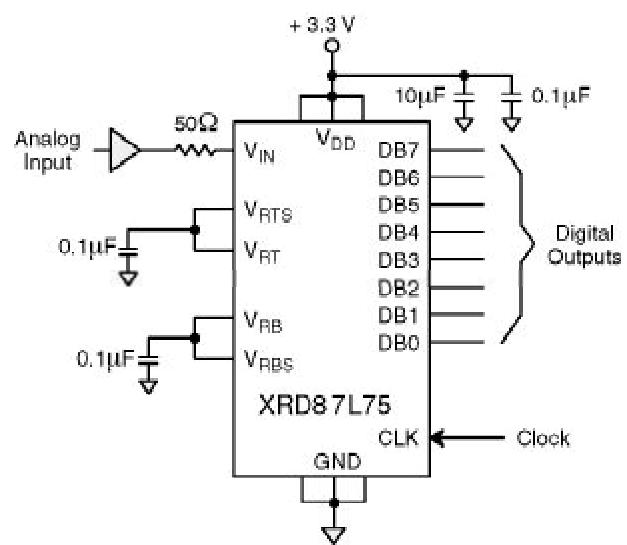

Figure 5. Typical Circuit Connections
5. See V_{IN} input equivalent circuit (Figure 5). Switched capacitor analog input requires driver with low output resistance.
The reference can be biased internally by shorting V_{RT} to V_{RTS} and V_{RB} to V_{RBS} . This will generate $0.4V$ at V_{RB} and $1.72V$ at V_{RT} (see *Figure 5*).